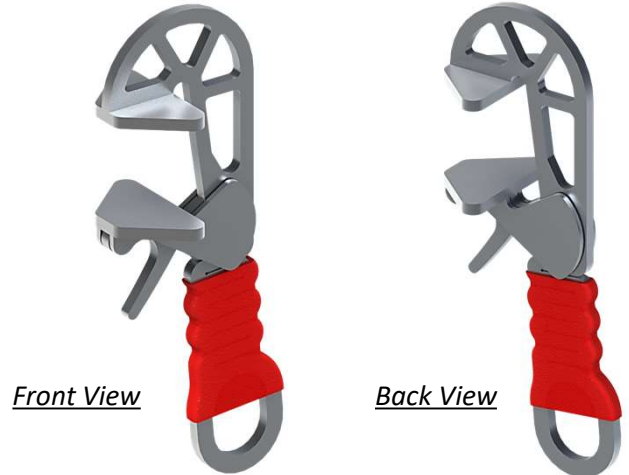

Figure 1. Personal Tie-Off Lanyard Device Must Only Be Used to Tie Off To Supported Allform Formwork Gangs Only
- The Personal Tie-Off Lanyard Device (Figure 1) is intended to be used in conjunction with industry approved shock absorbing lanyards. It's recommended that each worker use two devices with double lanyards in order to maintain 100% tie-off when climbing Allform formwork gangs.